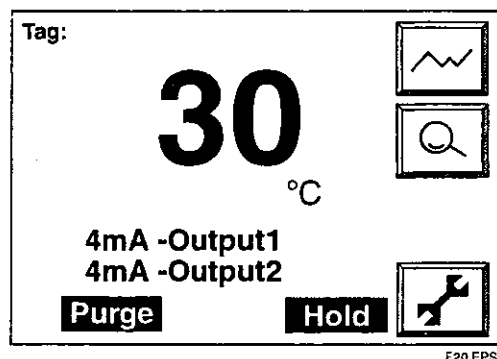

Figure 8.20 Display during Purging
- (1) Press the Setup key in the basic panel display to display the Execution/Setup display.
- (2) Choose Setup to display the "Commissioning" (Setup) display.
- (3) Choose Others and then Passwords to display the Passwords display shown in Figure 8.20.
- (4) Choose "Calibration, Blowback and Maintenance" to set passwords for calibration, blowback and maintenance respectively.
- (5) The "text entry" display then appears. Enter up to eight alphanumeric characters as the password.
- (6) In the same manner, follow steps 1 through 5 above to set a password for setup.
- (7) Record passwords to manage them appropriately.